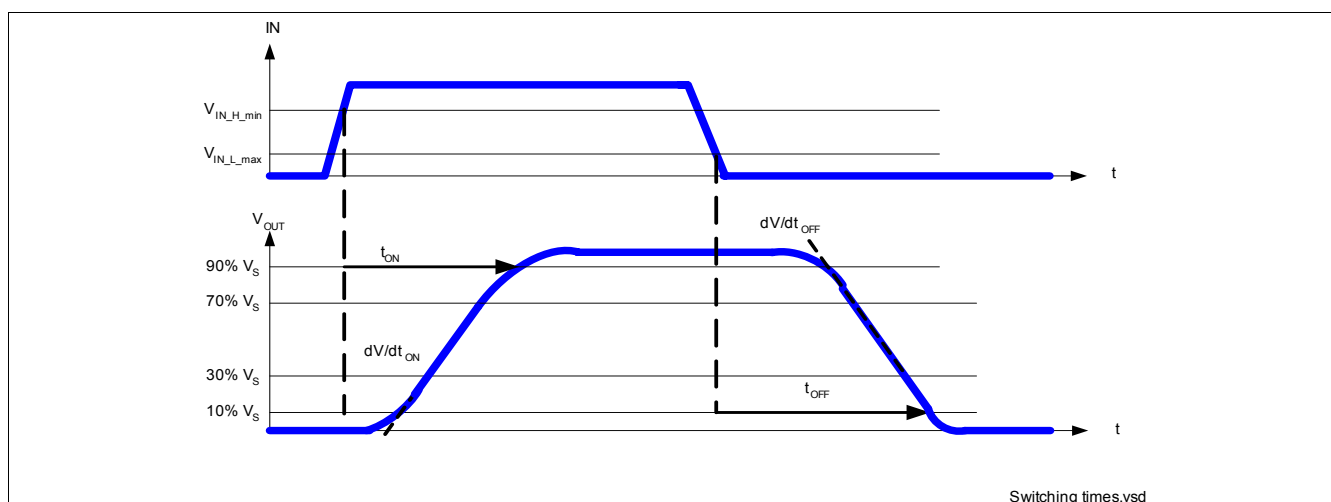

**Figure 5** Turn ON/OFF (resistive) timing
**Figure 5** shows the typical timing when switching a resistive load.
| 5.4.5 | Slew rate ON10% to 30% $V_{OUT}$                             | $dV_{dtON}$   | –            | 0.7  | 2    | V/μs | $R_L = 47\Omega$ ,$V_S = 13.5\text{V}$See <a href="#">Figure 5</a>                                        |